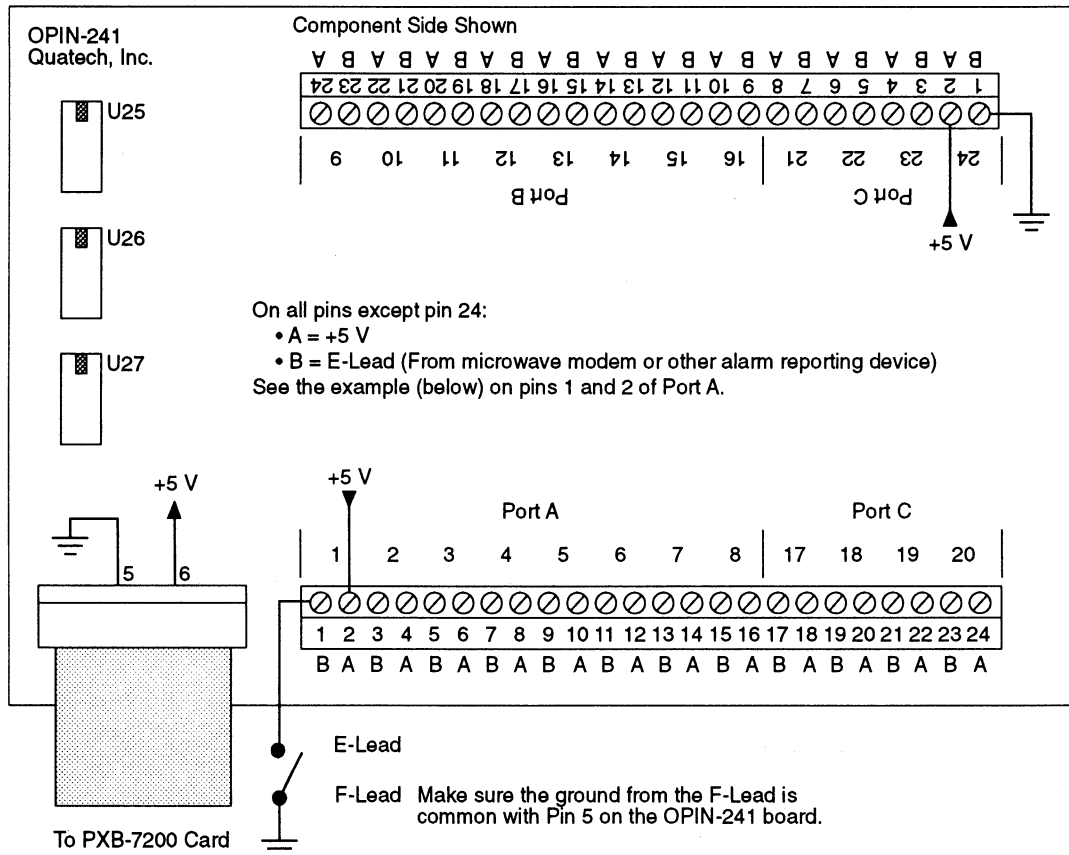

Figure 3. OPIN-241 Isolator Box Module
The OPIN-241 provides isolation for up to 24 inputs. The board provides 12 inputs on each side. You must connect the inputs to +5V with a drive current of 7.5 to 10 mA and provide a common ground as shown in Figure 3.
Each input port has a labeled screw terminal. The A side connects to +5V and the B side connects to the E-lead input from a microwave modem (or other alarm reporting equipment). Each site sends the Larus switch alarm to the OPIN-241 box through the microwave modem's E and M signal lines. The +5V supply is available on the OPIN-241 box. Refer to Figure 3 for the location of the +5V and ground connections.
- Step 6. Refer to Figure 3. Locate U27 on the OPIN-241 board.